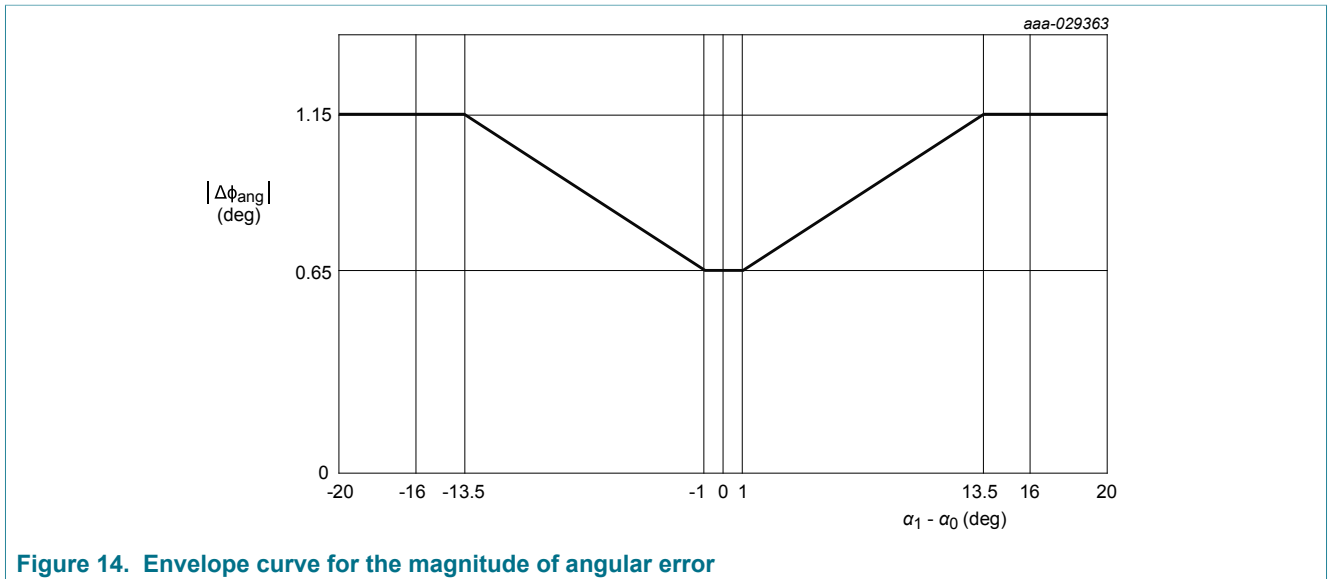

Figure 14. Envelope curve for the magnitude of angular error
- [6] Graph of angular error is shown in Figure 14.